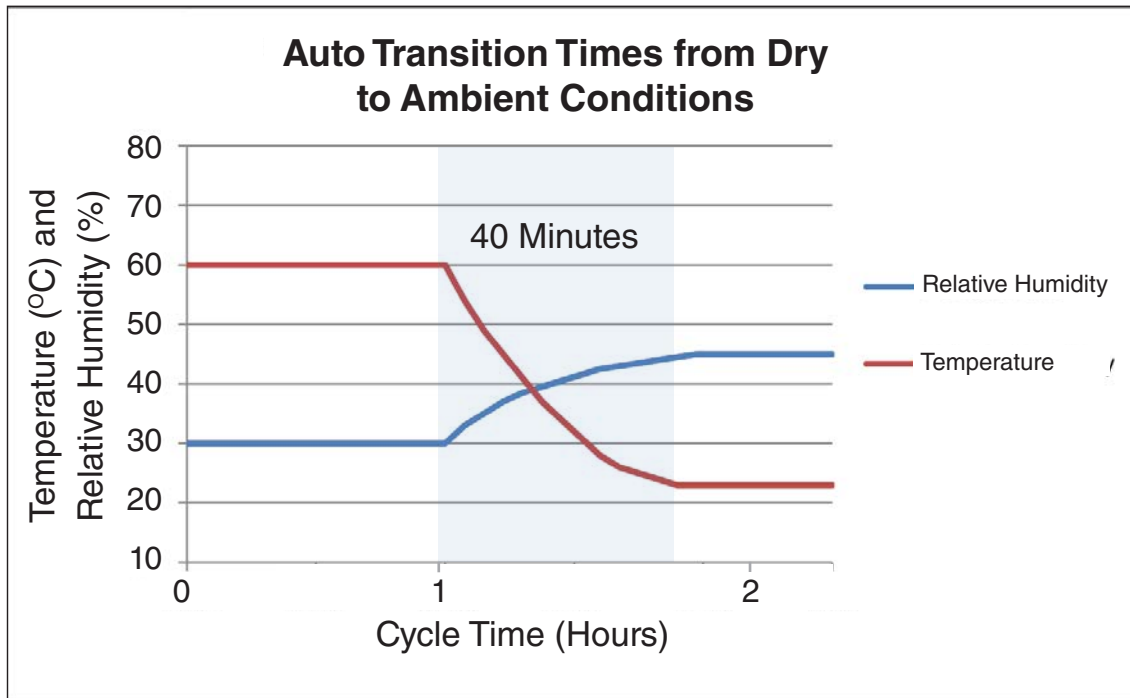

Figure 7.2c: Auto ramp. A Less Than ramp is very similar to this but a little more aggressive and may overshoot target values slightly.
- o **Auto:** The controller achieves the RH and temperature setpoints as quickly as possible while also minimizing overshooting the temperature (Figure 7.2c).
- o **Less Than:** User inputs the maximum transition time specified by the standard and the controller operates maximum heating, cooling, and/or drying until those conditions are met, without regard to possible overshooting of conditions. This generally achieves faster transitions than AUTO. If the conditions are not met within a tolerance, an alarm is displayed but the test is not interrupted (Figure 7.2c).